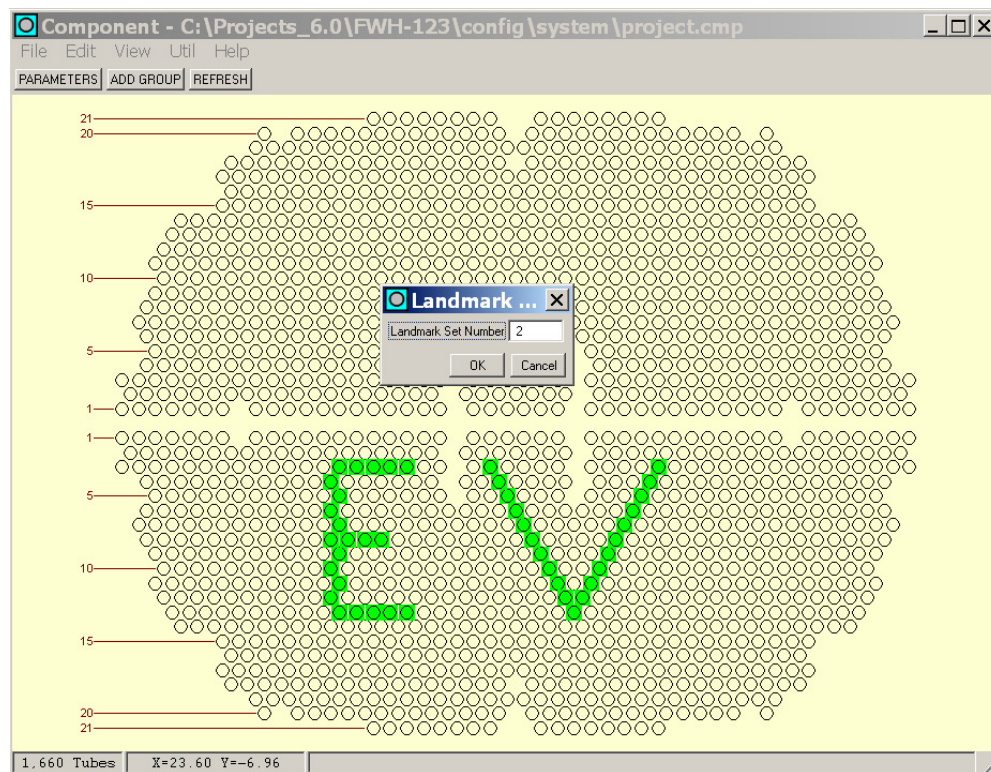
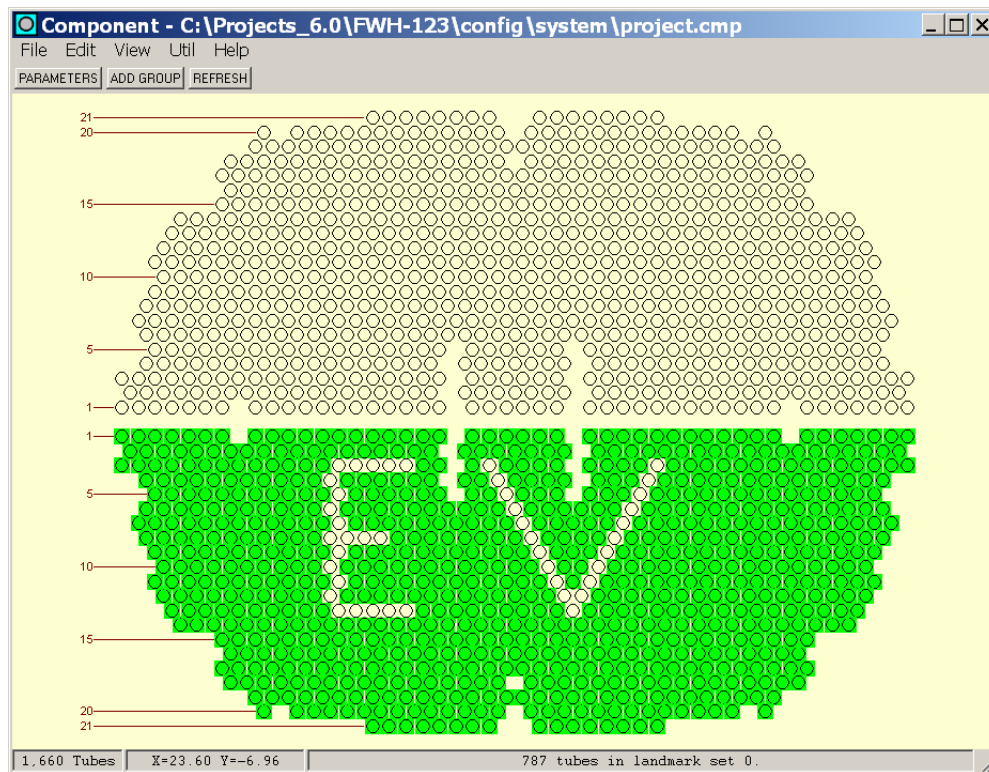

Figure 52. Assigning Selected Tubes to a Different Landmark Set (Set Landmark Set)
Figure 53. Landmark Set '0' (Zero) After Reassigning Selected Tubes to a Different Landmark Set
- Popup | Set Landmark Set:** This feature provides way for the user to assign *any* selected tubes to an existing or new landmark set. In Figure 1, the feedwater heater *cmp* file has two (2) landmark sets, '0' (*zero*) and '1'. Landmark set '0' is assigned to all the inlet leg tubes on the lower half of the tubesheet map, while landmark set '1' is assigned to all the outlet leg tubes on the upper half. In Figure 52, a pattern of tubes has been selected on the inlet leg. Clicking **Set Landmark Set** on the **Popup** menu causes the **Landmark** dialog box to appear as shown in Figure 52. In this example, '2' has been entered in the **Landmark Set Number** field. Clicking **OK** on this dialog will cause the selected 'EV' tubes to be reassigned to a new landmark set numbered '2.' Now, when landmark set '0' is selected on the *fly-out* menu after clicking **Popup | Select Landmark Set**, the user would now see the result in Figure 53. This indicates that the 'EV' pattern of tubes is no longer using landmark set '0'. In addition to using manual select as shown in this example, **Select Group**, **Select Section**, and **Select Row** may also be used with this feature.